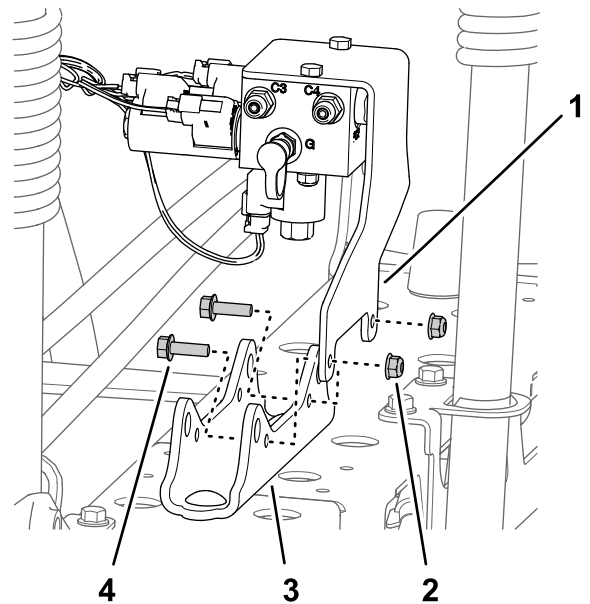

Figure 43
- **For machines without the optional ultra sonic boom leveling kit:** remove the 2 flange locknuts (5/16 inch) and 2 flange-head bolts (5/16 x 1 inch) that secure the support bracket for the section-lift manifold to the cylinder mount, and separate the manifold and bracket from the cylinder mount (Figure 43).